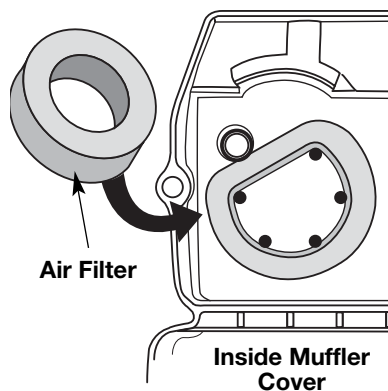

Fig. 33
2. Turn cover over and look inside to locate the air filter. Remove the air filter from inside the air filter/muffler cover (Fig. 33).